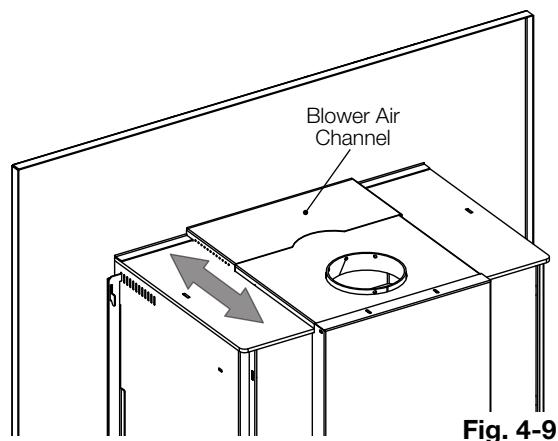

Fig. 4-9
- C. Adjust the blower air channel by sliding it forwards or backwards (**Fig. 4-9**).